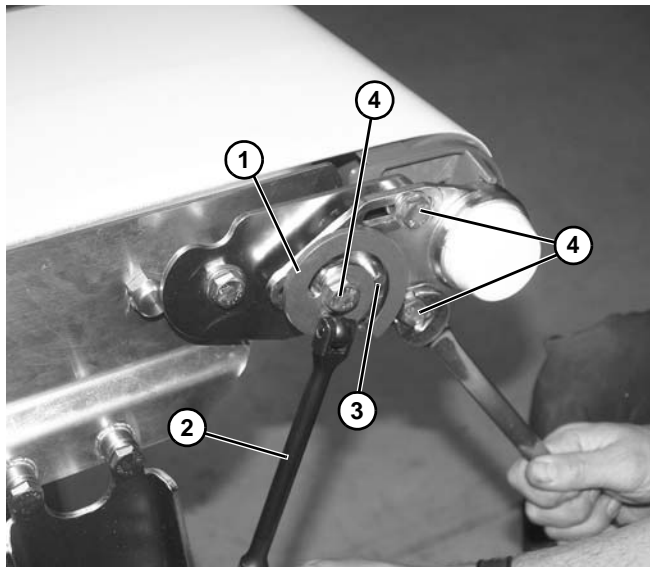

Figure 112
2. Rotate idler tail bracket (**Figure 112, item 1**) with a 3/8 inch breaker bar (**Figure 112, item 2**) to tighten or loosen idler. Align the idler tail bracket on pin (**Figure 112, item 3**) on each side of the conveyor as a starting point for tracking the belt. While applying tension, tighten three screws (**Figure 112, item 4**).